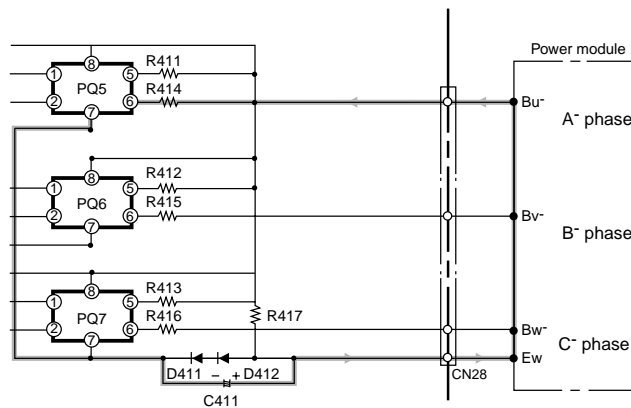
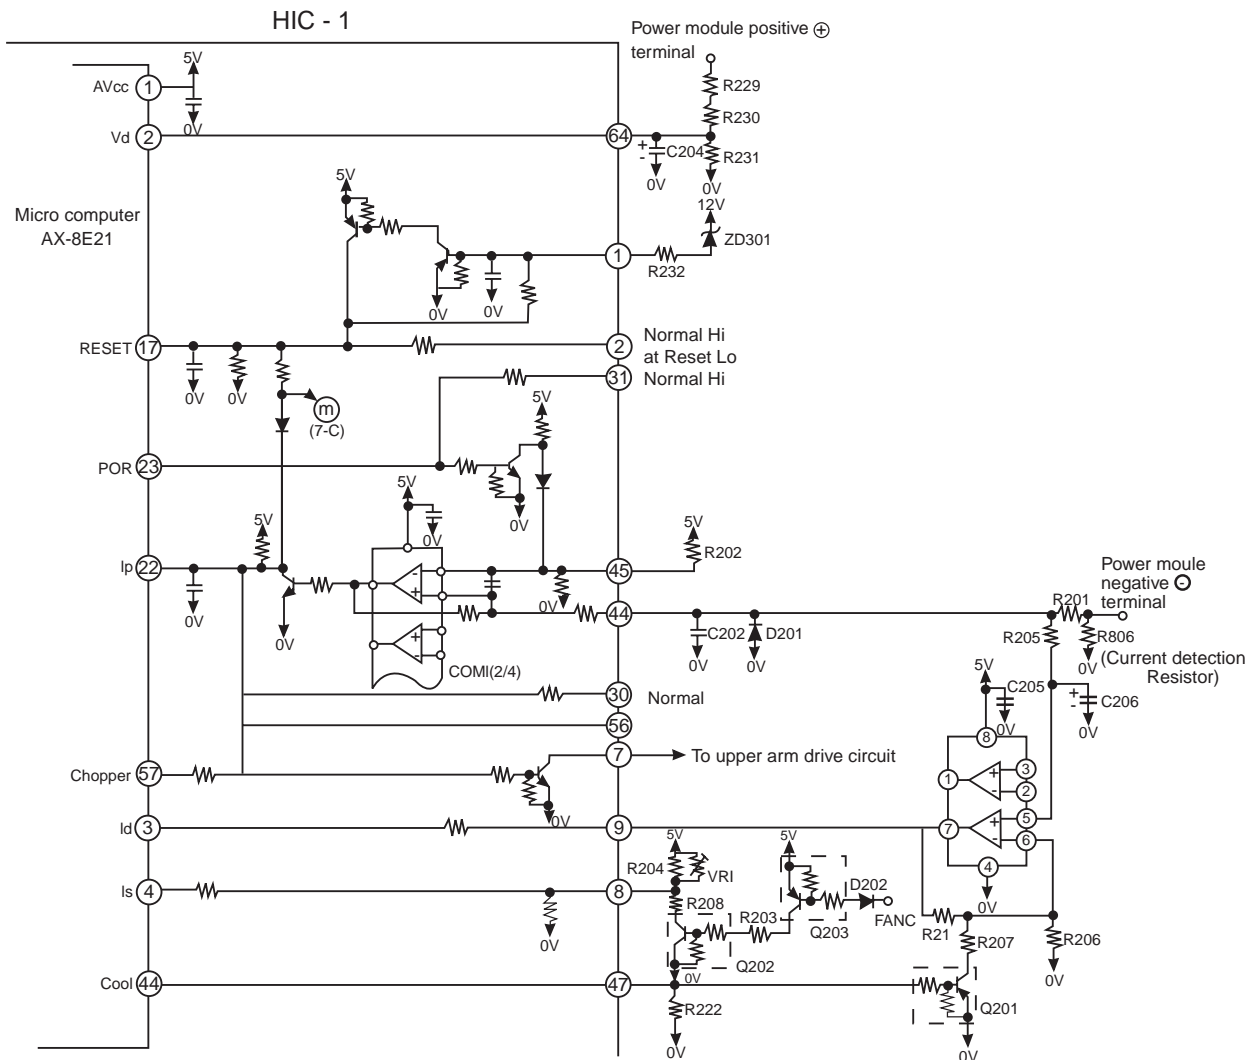

Fig. 7-5
Fig. 8-1 Micro computer(AX-8E21) and peripheral circuits
- When pin ③⑤ of the micro computer goes "Hi" → "Lo", a photocoupler between PQ601 pins ① and ② turn off and reverse bias current flows to C411 → power module's Ew⁻ terminals → Bu⁻ terminals → R604 → PQ601 to cut off the lower arm transistors. (Fig. 7-5)
- When the peak current cut off function operates, HIC-1 ③① pins become 0V, PQ501-PQ503 and PQ601-PQ603 turn off and the upper/lower arm drive circuits stop.
- when a reset signal is applied, HIC pins ⑦ and ③② become open, PQ501-PQ503 and PQ601-PQ603 turn off and the upper/lower arm drive circuits stop.
- Fig. 8-1 shows the micro computer and its peripheral circuits, Table 8-1, the basic operations of each circuit block, and Fig. 8-2, the system configuration.